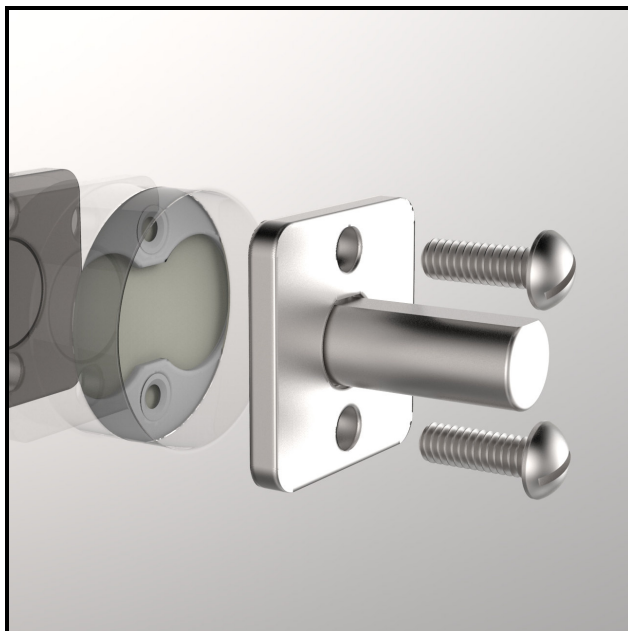

Figure 9
- On lower end (non-electrified end), install mounting post with included screws (Figure 9).